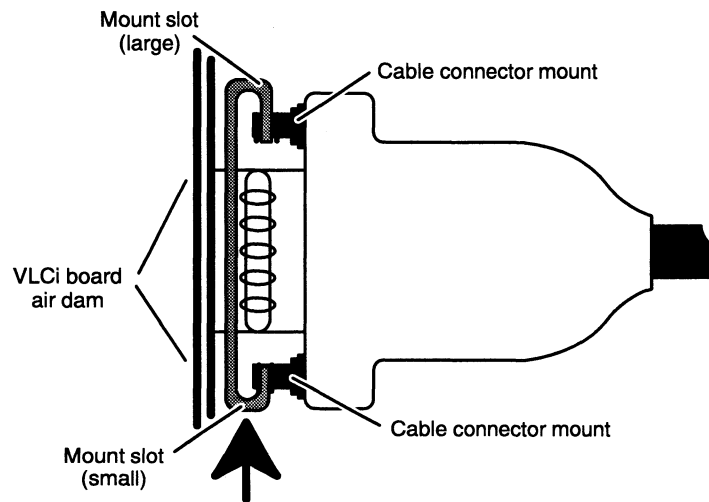

Figure 4-39 Securing a LAN Drop Cable to a VLCi Connector
4. Push the edge of the slide clip into position, so the small mount slot surrounds its cable connector mount. Figure 4-39 illustrates how to secure a slide clip connection.